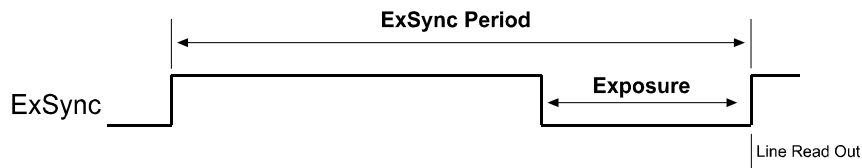

Figure 3-3: ExSync, Level-controlled Mode
- In **ExSync, level-controlled** mode, the exposure time is determined by the time between the falling edge of ExSync and the next rising edge. The pixels are exposed and charge is accumulated only when ExSync is low. The line is read out and transferred on the rising edge of the ExSync signal (see Figure 3-3).